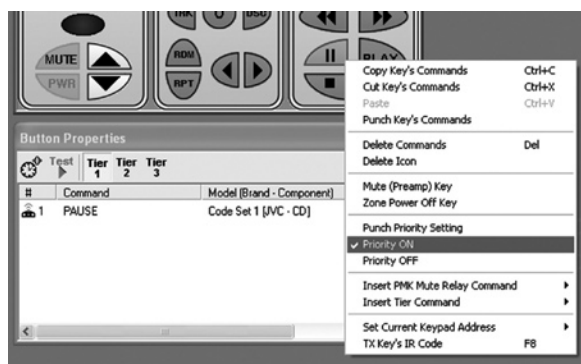

Figure 18 Forcing Individual Key Priority ON
1. Right-click the desired Source key (i.e. CD) and left-click **"Force Source Priority On"** and **"Yes"** in the pop-ups. Refer to Figure 18. All function and numeric keys for that source, where applicable, will now have all their "Priority On" options checked.
1. Right-click the desired function or numeric key (i.e. Pause) and left-click "Priority On" in the pop-up. See Figure 18. The key will then have "Priority On" checked.